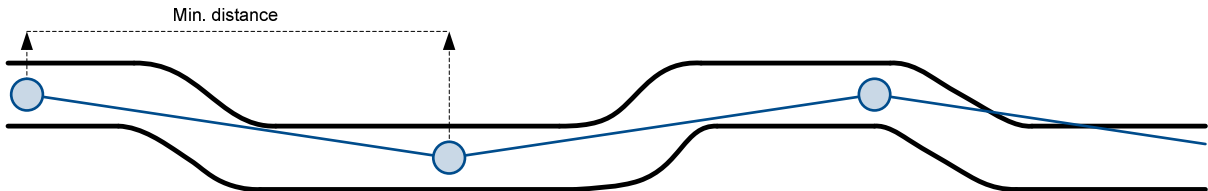

Figure 57 Distance based tracking
**Distance based data acquiring** (Figure 57) – records are being acquired when the distance between previous coordinate and current position is greater than defined parameter value. Entering zero means that data won't be recorded. This method is suitable for non-urban territories where moving trajectory is straight.